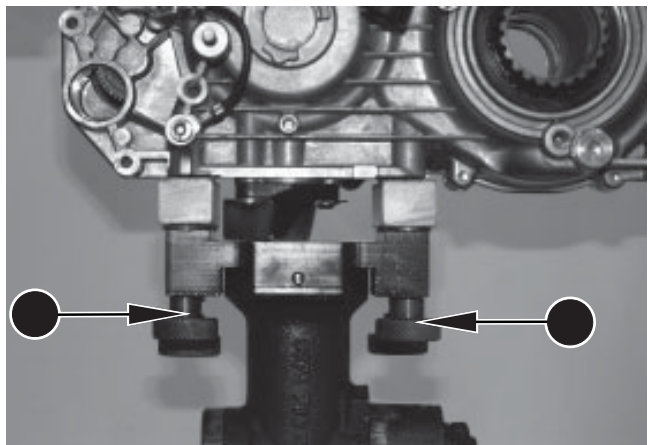

Fig. 14
- ⇒ Unscrew the base plate from the engine, position the engine on the trestle mounting plate, see Fig. 14, and fix it securely with the 4 fixing screws.